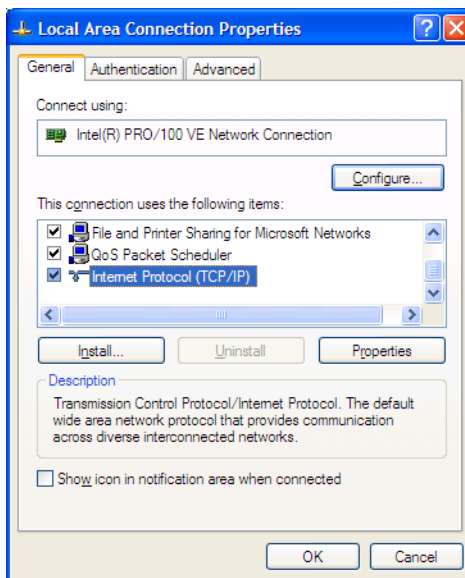
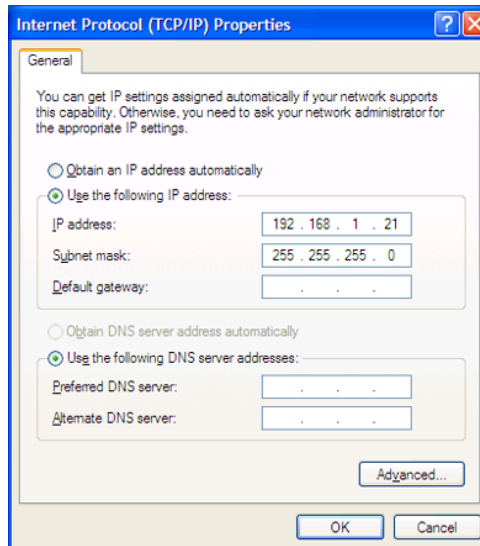

Figure 5. The Local Area Connection Properties Dialog
Figure 6. The Internet Protocol Properties Dialog
- In the Local Area Connection Status dialog box, click the Properties button. The Local Area Connection Properties dialog box appears, as shown in Figure 5.
- In the panel labeled This connection uses the following items:, select the Internet Protocol (TCP/IP) item to highlight it, and click the Properties button (see Figure 5 for an example). The Internet Protocol (TCP/IP) Properties dialog box appears, as shown in Figure 6.